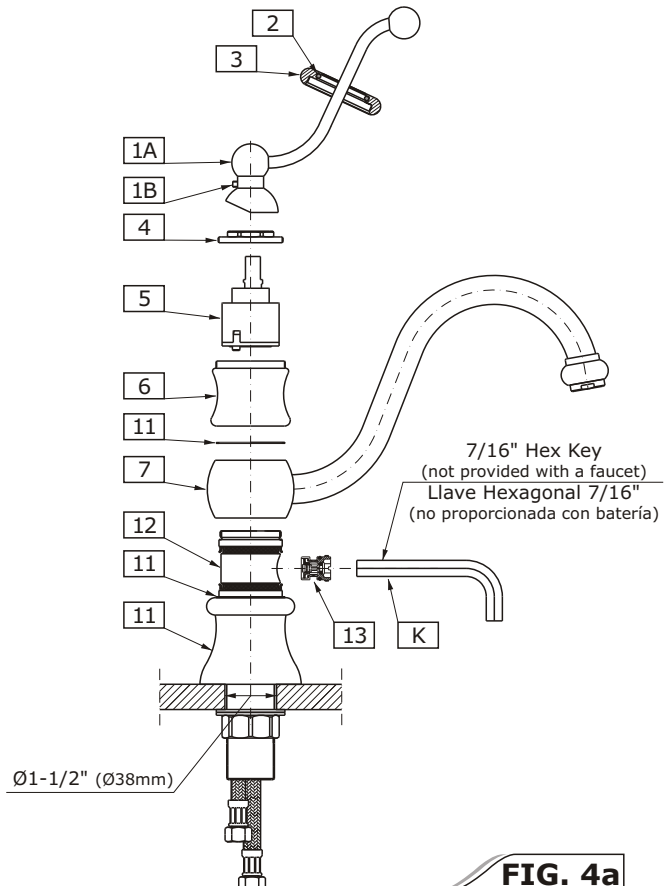

FIG. 4a
Exchange of cartridge (5) - fig. 4a.
1. Unscrew the top ring (3) and take it off the handle (1A).
3. Unscrew the nut (4) - use the socket wrench 1 1/8".
4. Remove the cartridge (5) and check the cartridge and seals condition. If good - lubricate the seals with silicon; if bad change the cartridge to the new one.
Exchange of the diverter valve (13) - fig. 4a.
1. Do the steps (1 - 4) from above "Exchange of cartridge (5)".
2. Unscrew manually the middle body (6). Use the rubber gloves or strap wrench. Pay attention not to damage or scratch the surface coating.
3. Remove the spout (7) with the top Teflon seal (11) from diverter body (12) by sliding upwards. Pay attention to the seals of diverter body (12).
4. Unscrew the diverter valve (13) from the diverter body (12). Use the 7/16" hex key (K).
5. Clean the valve seat in the body (12) and the valve (13) and check the condition of the valve and seals.
The assembly of the diverter valve (13) and cartridge (5) - fig. 4a & 4b.
1. Assemble the diverter valve (13) back to the body (12). For the assembly of the valve use the 7/16" hex key (K). Do not use great force to avoid damage of the valve (13).
2. Slide the spout (7) onto the diverter body (12). Lubricate the seals of diverter body (12) for smoother operation. Pay attention to the correct position of the lower Teflon seal (11) on the bottom body (14).
3. Place in the groove of the spout (7) top Teflon seal (11) and screw the middle body (6) onto the diverter body (12).
4. Assemble the cartridge (5). Make sure the seals of the cartridge (5) and top surface of the diverter body (12) are free of any debris and impurities. Secure the nut (4) using torque of 5 Nm (3,69 ft lbs) and then loosen it by 1/2 turn and tighten it with the torque 8 to 10 Nm (5,90 - 7,38 ft lbs).
5. Push the handle (1A) onto the cartridge stem. Put on the top ring (3) through the handle and tighten the top ring (3) onto the middle body. Pay attention that the o-ring (2) is placed in the groove of the top ring. Check if handle (1A) moves freely then tighten the screw (1B) with the hex key.